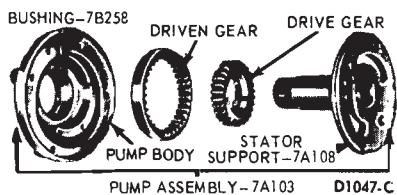

FIG. 40—Front Pump Disassembled
3. Refer to Fig. 40 for a disassembled view of the front pump. Inspect the pump body housing, gear pockets and crescent for scores.